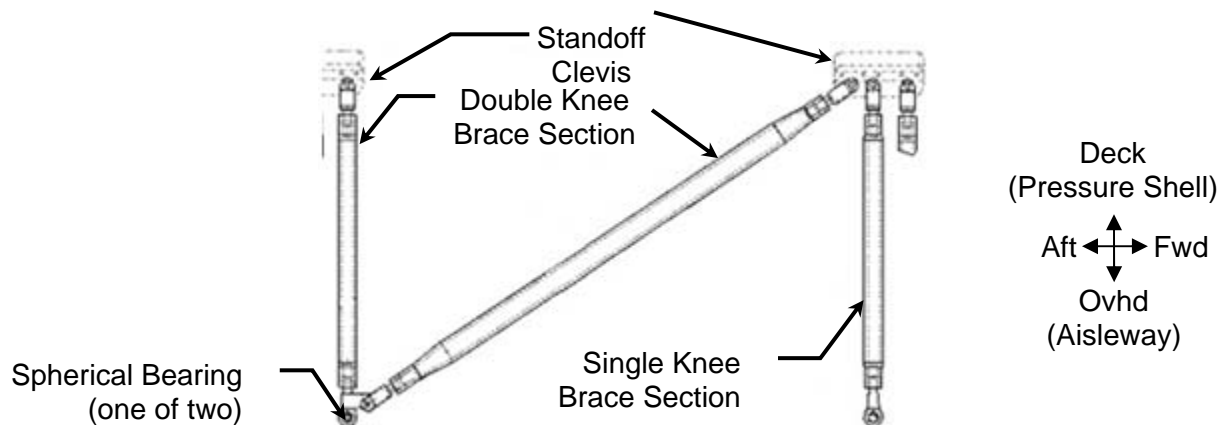

Figure 2.- NOD3F4 Knee Brace Installation.
4.2 Install Knee Brace Assembly sections (P/N 683-50249-4) by engaging tethered PIP Pins (three) into Standoff Clevis. Refer to Figure 2.